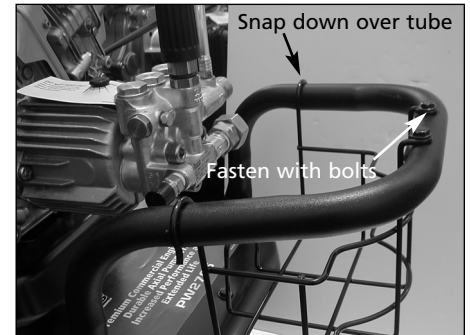

Figure 5 - Attach basket (if applicable)
6. If applicable: attach wire basket to front guard by pressing the hooks of the basket over the tube. Then align front eyelets of basket with front holes of front guard tube. Fasten with the 2 bolts, 4 washers, and 2 nuts provided (See Figure 5).